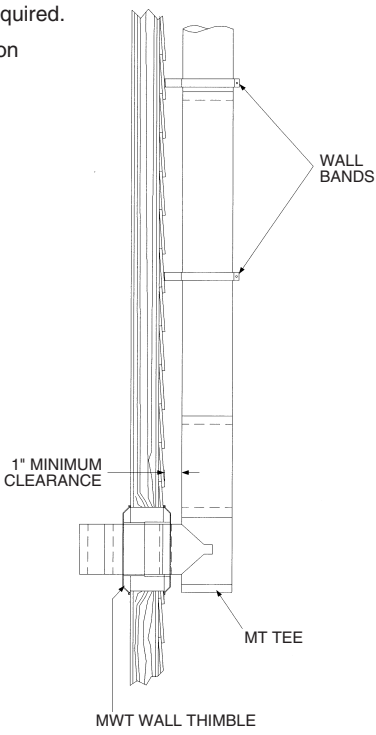

FIGURE 3
7. Although it is not a preferred practice, there may be installations where B-Vent must run vertically-exterior to the building – and wall support is needed. A wall band (MH) or (MWB) is used by placing around the B-Vent, then fastening to the wall. Using a wall band assures that the clearance to combustibles is maintained (See Figure 3).